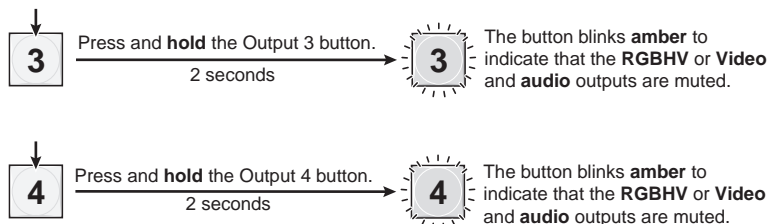

Figure 3-53 — Mute the outputs
4. **One at a time**, press and **hold** the Output 3 and then the Output 4 buttons (figure 3-53) for approximately 2 seconds until the buttons begin to blink. The output 3 and output 4 video and audio signals are muted.